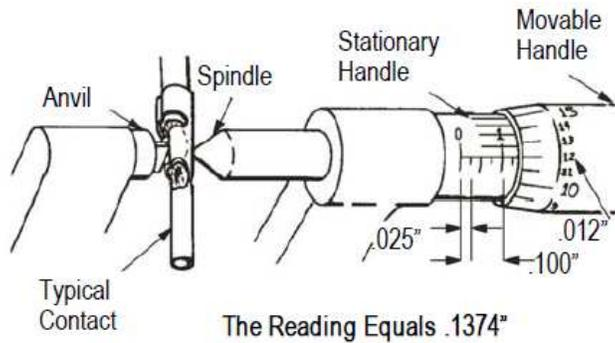

Figure 4
The crimp height dimension is obtained from the calibrations on the handles of the comparator (see Figure 4).
Mitutoyo Digimatic digital crimp height comparator part number 342-371 also has a dial (Figure 4) which can be used when the screen is blank (dead battery).
- Deleted Figure 4 and renumbered subsequent Figures.